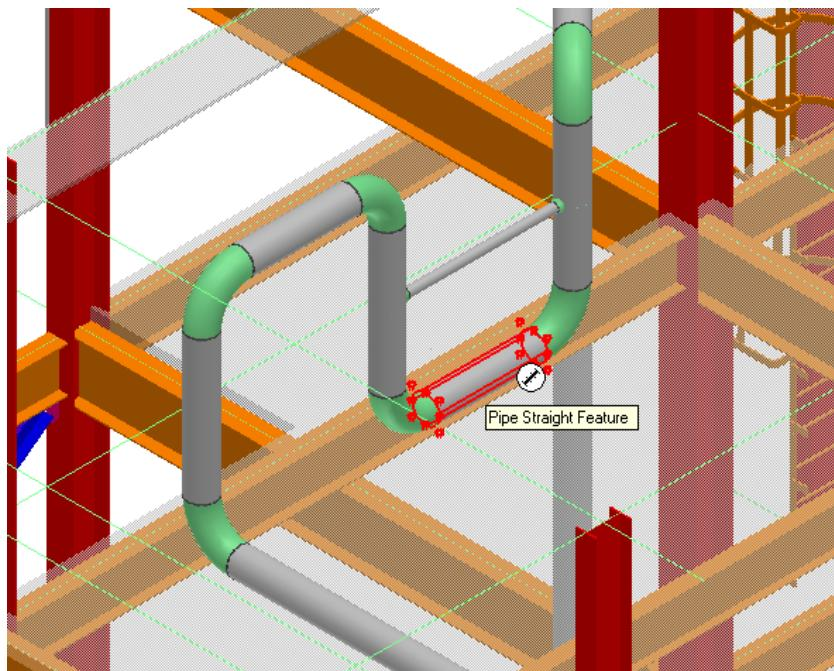

Figure 7: Located Midpoint of the Pipe
- By using SmartSketch locate the midpoint of the pipe, as shown in Figure 7, and click on it.